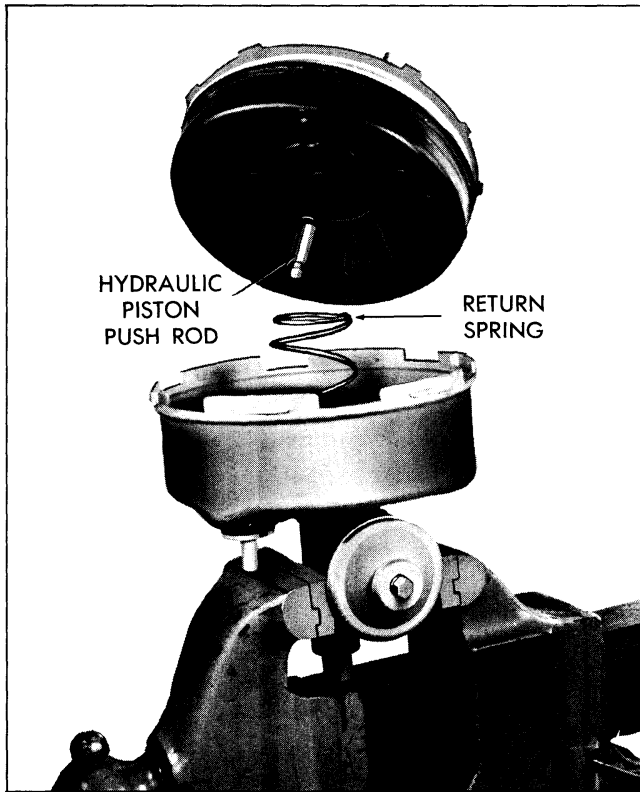

Fig. 5B-19 Installing Rear Housing
2. Place gauge J-7723 over push rod so that it fits between two studs on front housing (Fig. 5B-20). It should be parallel to studs and resting on surface of housing. The cutout portion of gauge should just match the height of the push rod. Any variation may be compensated for by turning adjusting screw in end of master cylinder push rod.